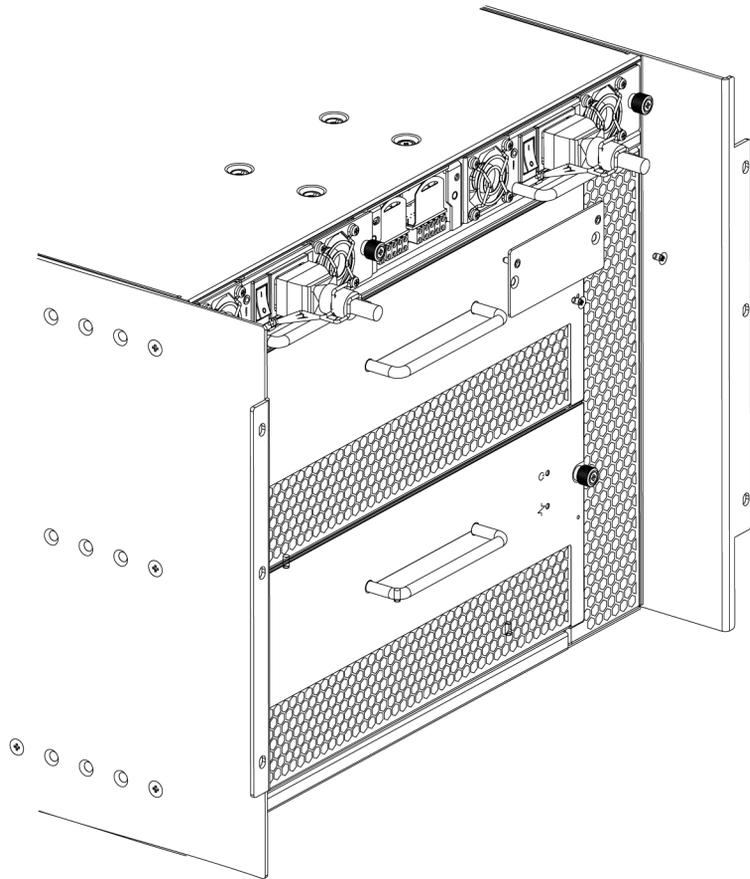

Figure 26 RRP: WWN bezel (logo plate) and WWN card
3. Remove the two screws from the WWN bezel (Figure 26 on page 119). Pull the bezel away from the chassis and set it aside. The WWN cards and their status LEDs are visible.
5. Install the WWN bezel. Orient the bezel on the chassis as shown in Figure 26 on page 119. Insert and tighten the two screws.